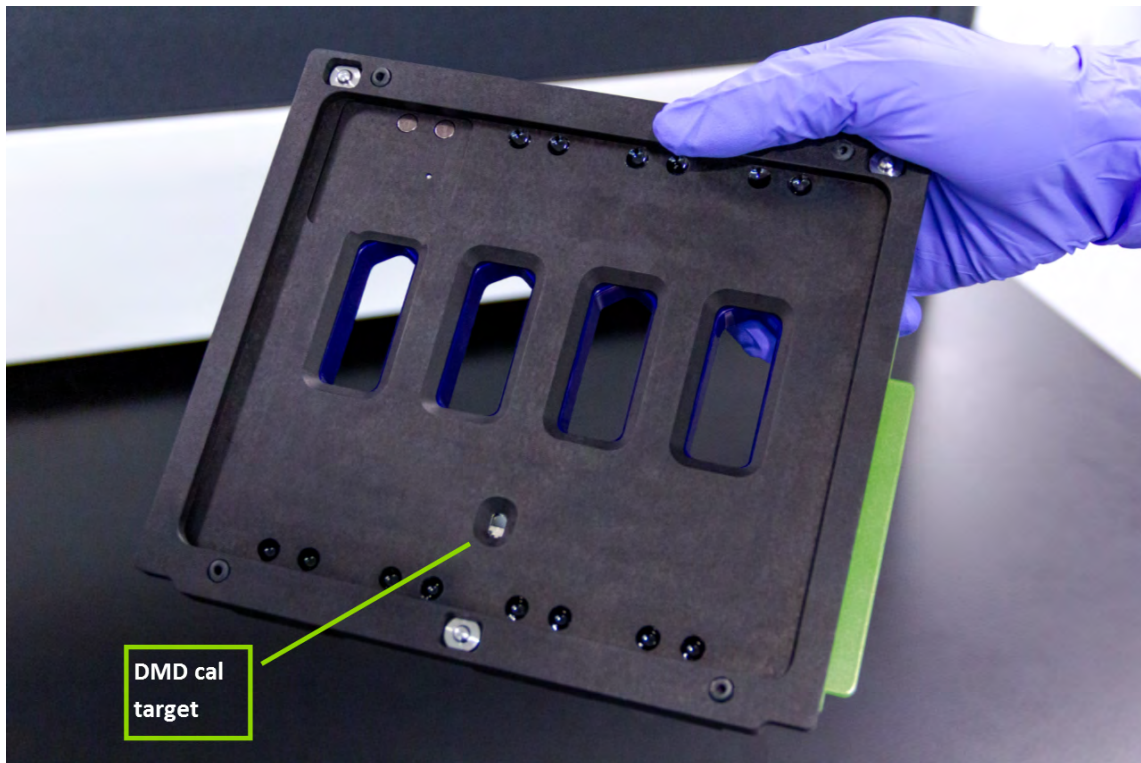

Figure 95: Underside of slide holder with DMD cal target indicated
- Visually inspect the DMD calibration target (see Figure 95) to ensure it is clear of all debris. Do not make contact with this area unless necessary to gently wipe away debris. DO NOT apply pressure to this area. Following this cleaning procedure promptly after each run should be sufficient to keep this area clean.